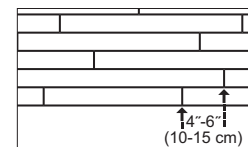

Figure 4
- Be attentive to staggering the ends of the boards at least 6" (15 cm), when possible, in adjacent rows (Figure 4). This will help ensure a more favorable overall appearance of the floor.
- End-joints of adjacent rows should be staggered a minimum of 6" (15 cm) to ensure a more favorable overall appearance. (Figure 4)